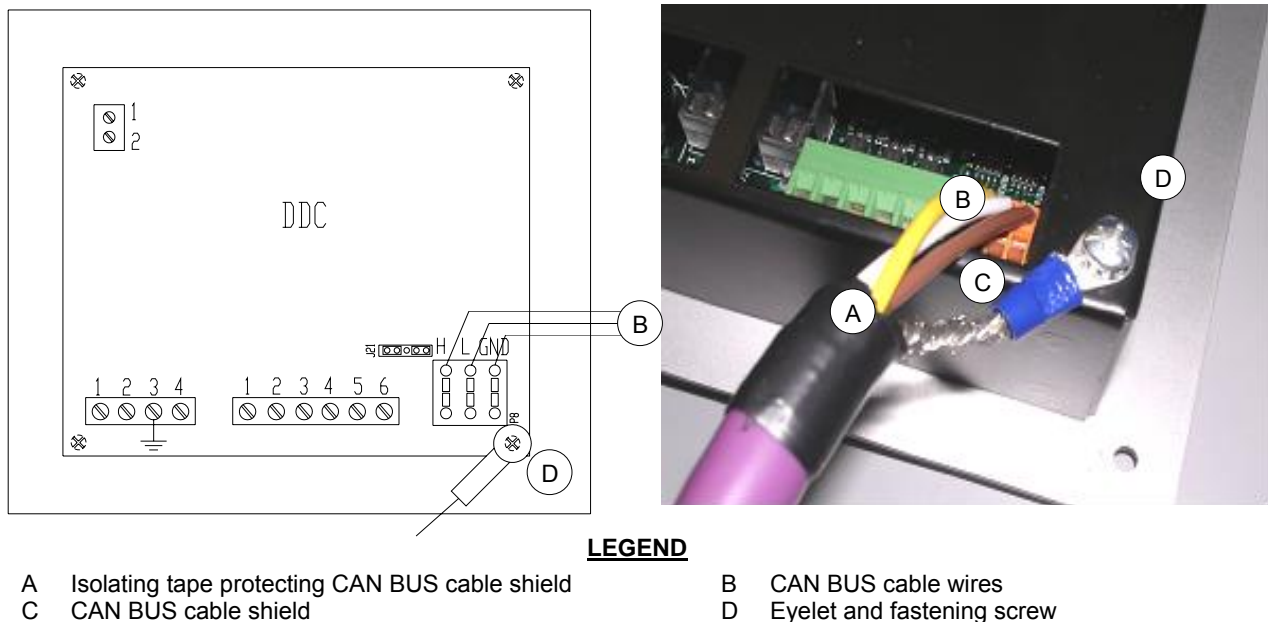

Figure 17 Direct Digital Controller (DDC) – cabling scheme and partial rear view.
If CAN-BUS cable has already been connected with DDC (procedure "c" described below), be careful with 4-mm eyelet (or two eyelets) of CAN BUS cable shield: use fastening screws close to CAN-BUS socket (bottom right) to fasten eyelet (or two eyelets) as shown in Figure 17, on page 35.
Before operating on DDC, ensure it is off. As electric board on appliance, some DDC jumpers must be moved to reach intermediate and final node configurations. The position of "J21" jumpers on a new DDC is CLOSED, as shown in Figure 17:
4. Wind shield and connect it to a 4-mm eyelet, as shown in Figure 17, Page 35, details C and D. Then, act as follows:
8. Use rear cover fastening screw located close to CAN BUS socket to fasten eyelet (or two 4-mm eyelets) (detail D, Figure 17 Page 35).